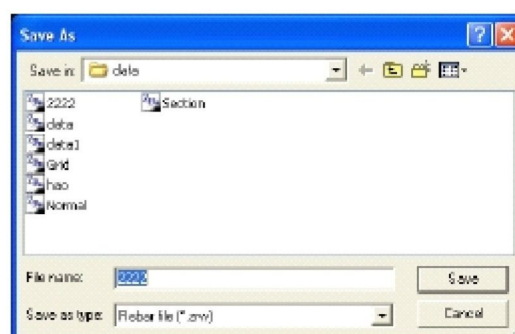

Fig. 2.12
- press the Transmission key, pop-up window shown in fig. 2.12 appears.